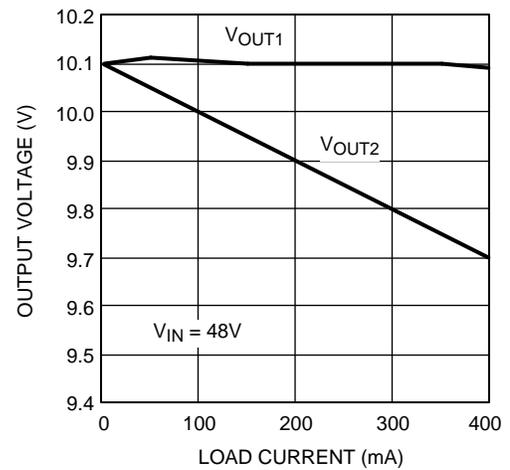

Figure 17. V_{OUT1} and V_{OUT2} vs. Load Current
- V_{OUT2} which has low ripple (10 mV to 26 mV) but relatively poor load regulation (see Figure 17)